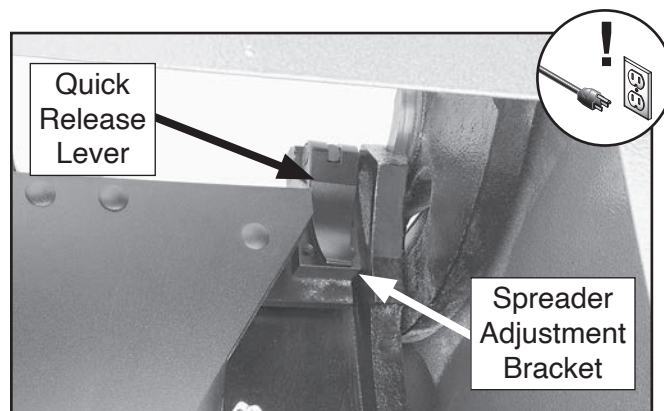

Figure 43. Quick release lever location (viewed from inside cabinet).
2. Raise blade up all the way, then open right access door and locate quick release lever (see **Figure 43**).